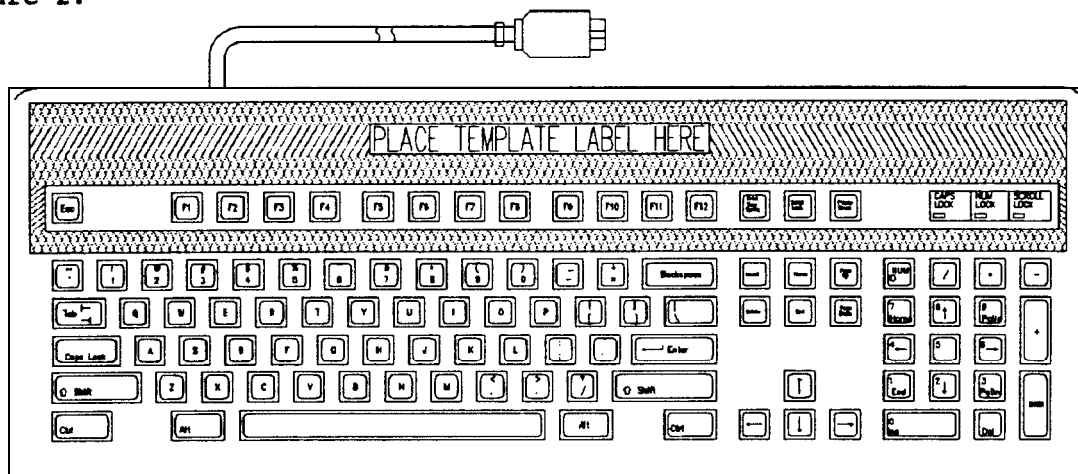

Figure 2. **Label Location for Honeywell 101 Keyboard**
15. Install the Template Label on the Keyboard in the location as indicated in **Figure 2.**